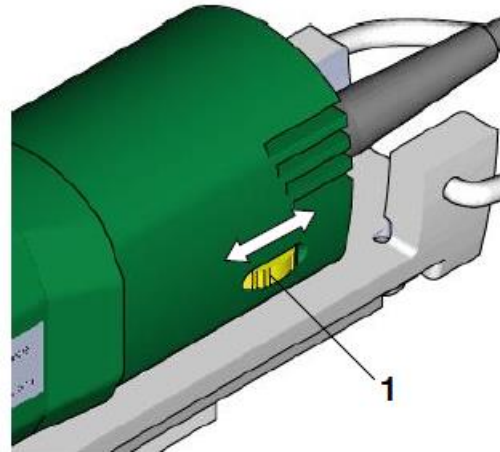
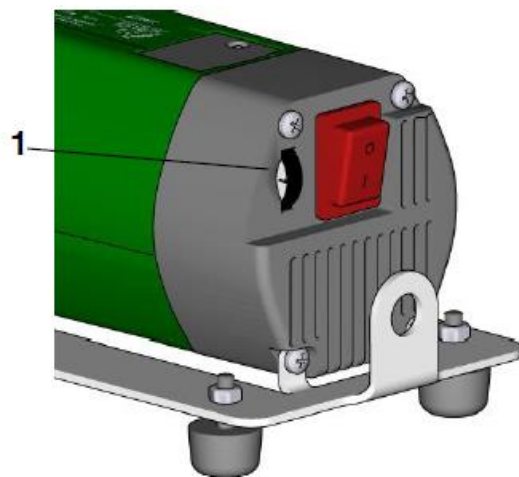

Fig. 9 Speed setting MB 20/2 and MB 20/3
Fig. 10 Speed setting MB 30 E
The required speed can be set both while the machine is in operation as well as when it has been switched off using the control knob (1) (see Fig. 9 and Fig. 10).